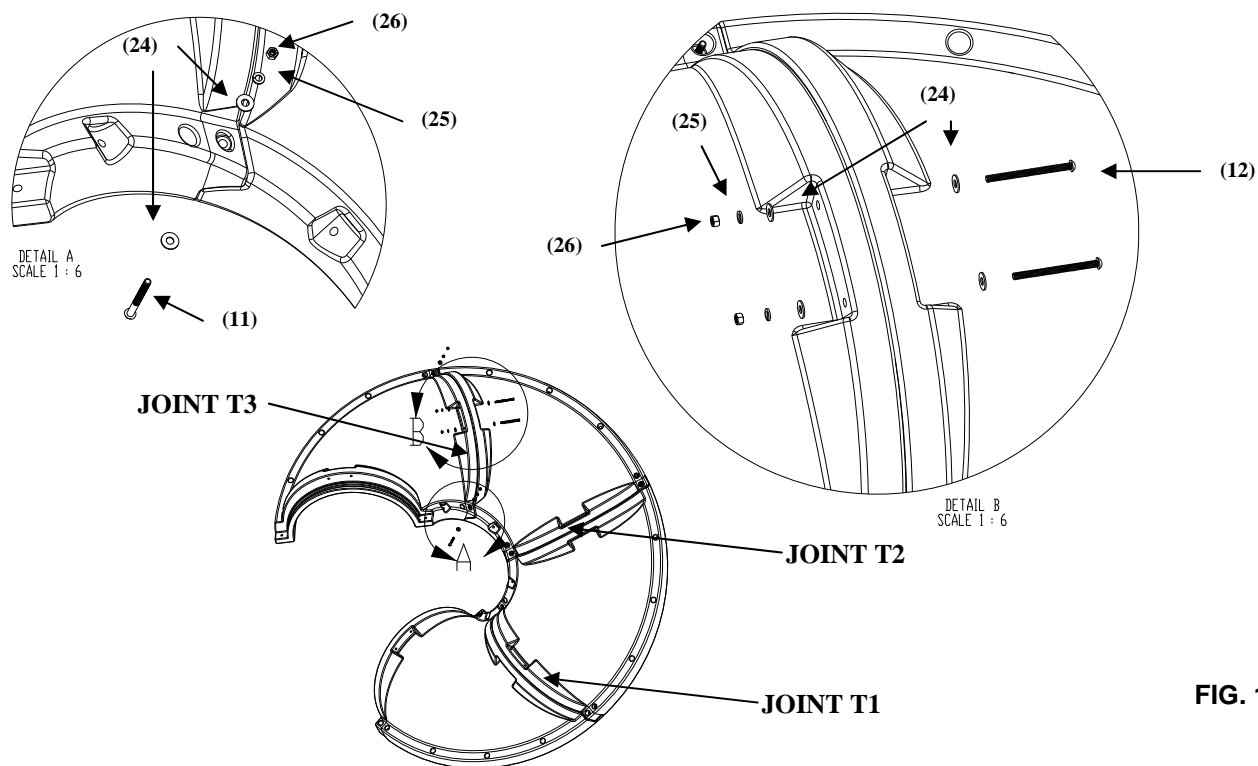

FIG. 12
9) Assemble the four remaining Runway Section (2) pieces. **Order of assembly is important.** The end of each runway section is labeled and must be assembled to the runway section with the same number. Assemble two sections together that are labeled T1 on the mating ends. Fasten the two sections together using the two bolt locations through the side of the parts as shown in Figure 12, Detail A. The hardware required for the two side locations is as follows: 3/8"-16 x 4" Button Head Cap Screw S/S (11), 3/8" Flat Washer S/S (24), 3/8" Flat Washer S/S (24), 3/8" Lock Washer S/S (25), 3/8" Hex Nut S/S (26). Next, finish fastening the parts together as shown in Figure 12, Detail B. The hardware required for this step is as follows: 3/8"-16 x 5" Button Head Cap Screw (12) and a 3/8" Flat Washer (24), 3/8" Flat Washer (24), 3/8" Lock Washer (25), 3/8" Hex Nut (26).